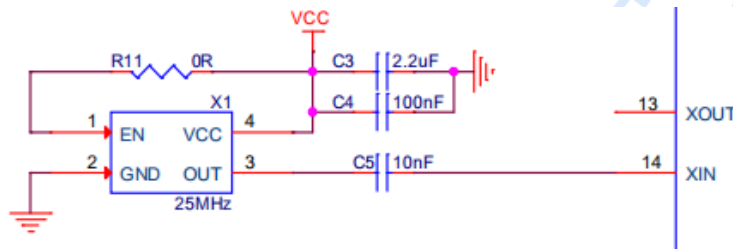

Figure 4-9 Circuit for active crystal oscillator
Refer to Figure 4-9 for the circuit configuration.
2. When using an active crystal oscillator, it is recommended to connect a 10 nF AC-coupling capacitor in series with the Xin input pin, as shown by capacitor C5 in Figure 4-9.